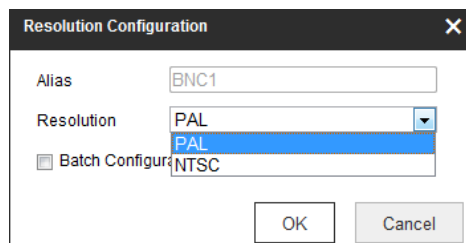

Figure 4-30 Resolution Configuration
Step 2 In the output list, there are two kinds of video output signals, respectively BNC and HDMI. Right click one of BNC signal sources and select **Resolution Configuration** to pop up the interface as Figure 4.30.